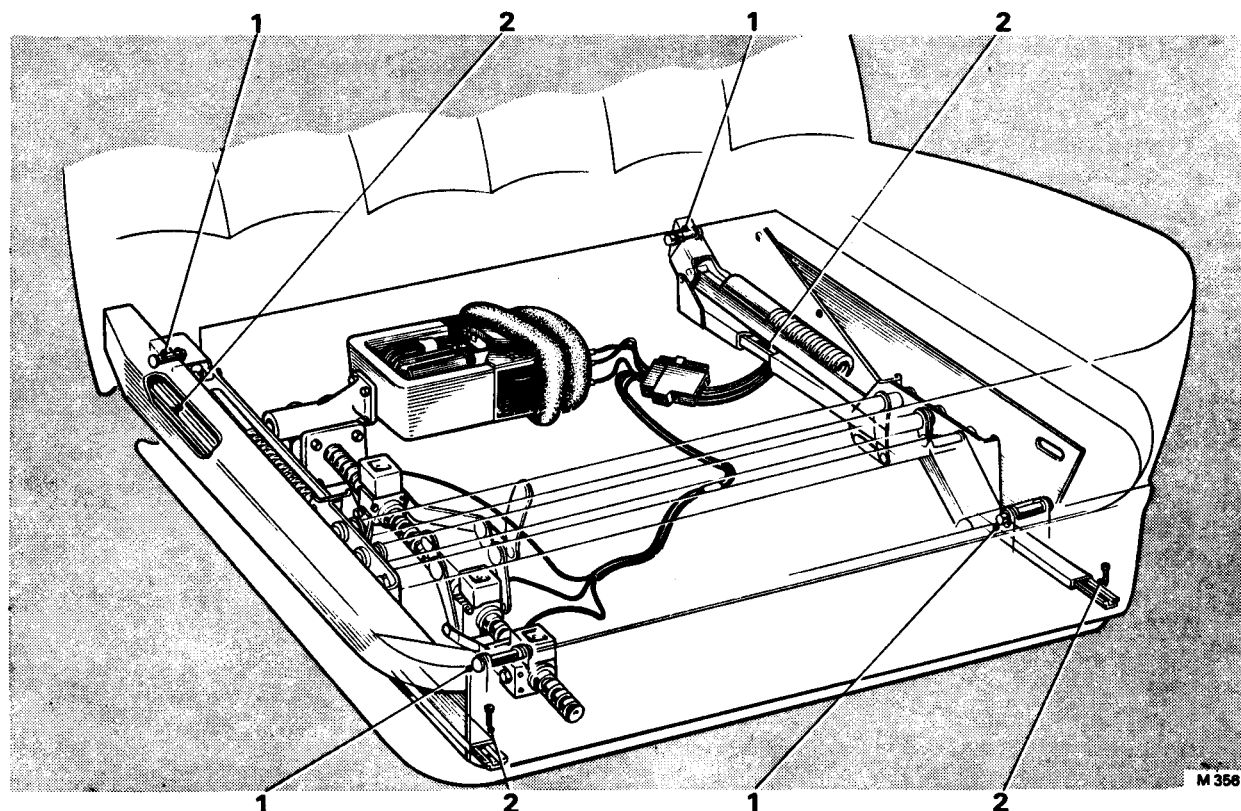

FIG. S32 FRONT SEAT MECHANISM (4-Door Saloon and Long Wheelbase Cars prior to Car Serial Number 6001)
- 3.(a) **Cars prior to Car Serial Number 6001** (see Fig. S32). Remove the retaining clips from the four pins securing the seat mechanism to the seat base; remove the four pins.